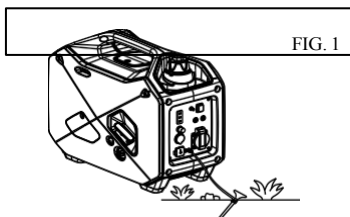

FIG. 1
- Be sure to ground the generator. FIG. 1